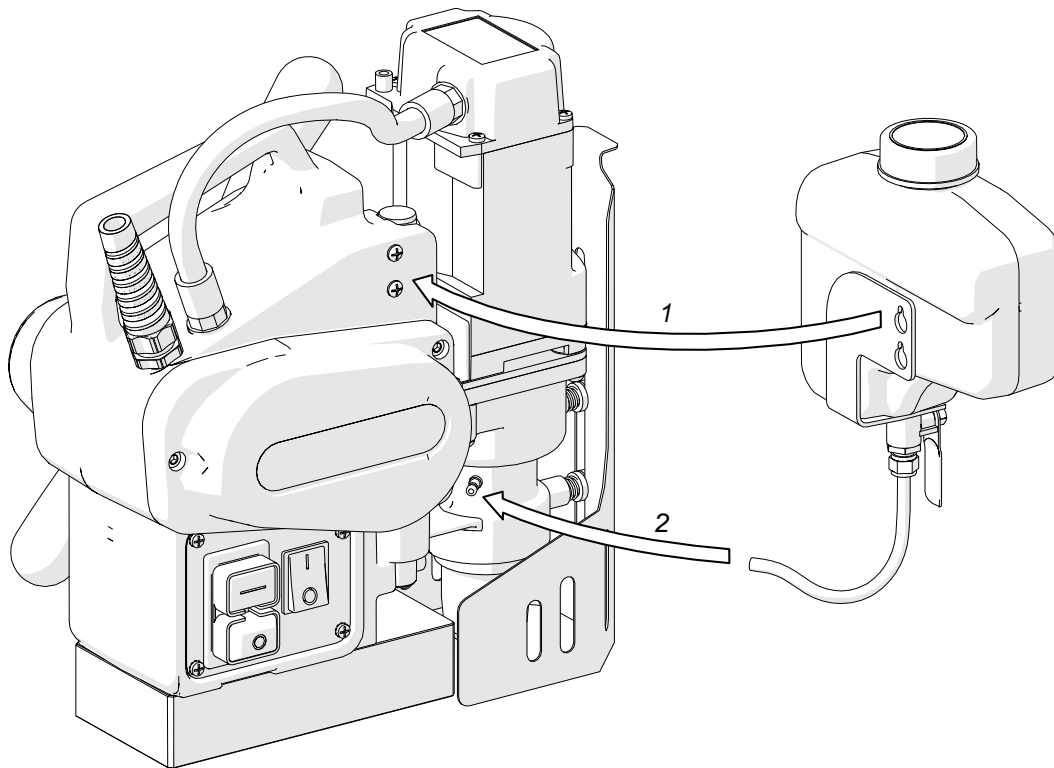

Fig. 5. Installing the cooling system bottle
Hang the cooling system bottle on the screws (1, Fig. 5), and attach the bottle hose to the coupling (2). Remove in reverse order.